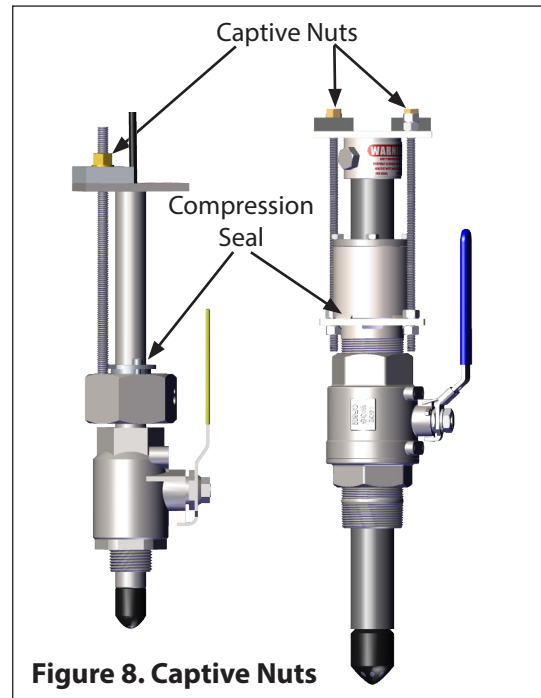
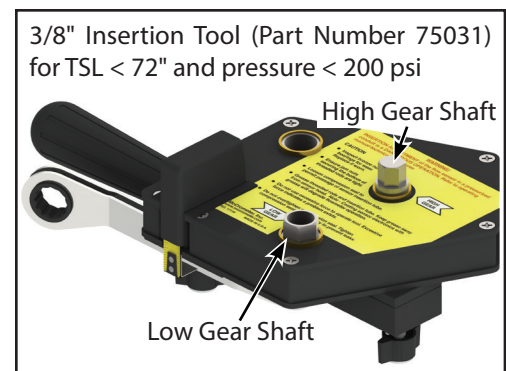

Figure 8. Captive Nuts
Figure 12. Sensor Insertion Tool
3. Insert the sensor into the pipe by simultaneously rotating clockwise the two captive nuts on the top plate for the 2" sensor, and the single captive nut on the 1" sensor. (Figure 8) For the two captive nuts on the 2" sensor use the two ratchet wrenches provided. It is recommended that the sensor insertion tool (p/n 75031) be used to rotate the captive nuts on the 2" sensor to ensure the top plate compresses evenly. See section 4.8 and Figure 12.
McCrometer recommends using a sensor insertion tool (Figure 12) (P/N 75031) to help with inserting the sensor and to avoid any damage to the sensor. Place the profiling insertion tool over the captive nuts and lock it into place with spring locks located on the bottom of the tool. Using the provided wrench rotate the high gear shaft clockwise until the bottom of the sensor reaches the far wall of the pipe.